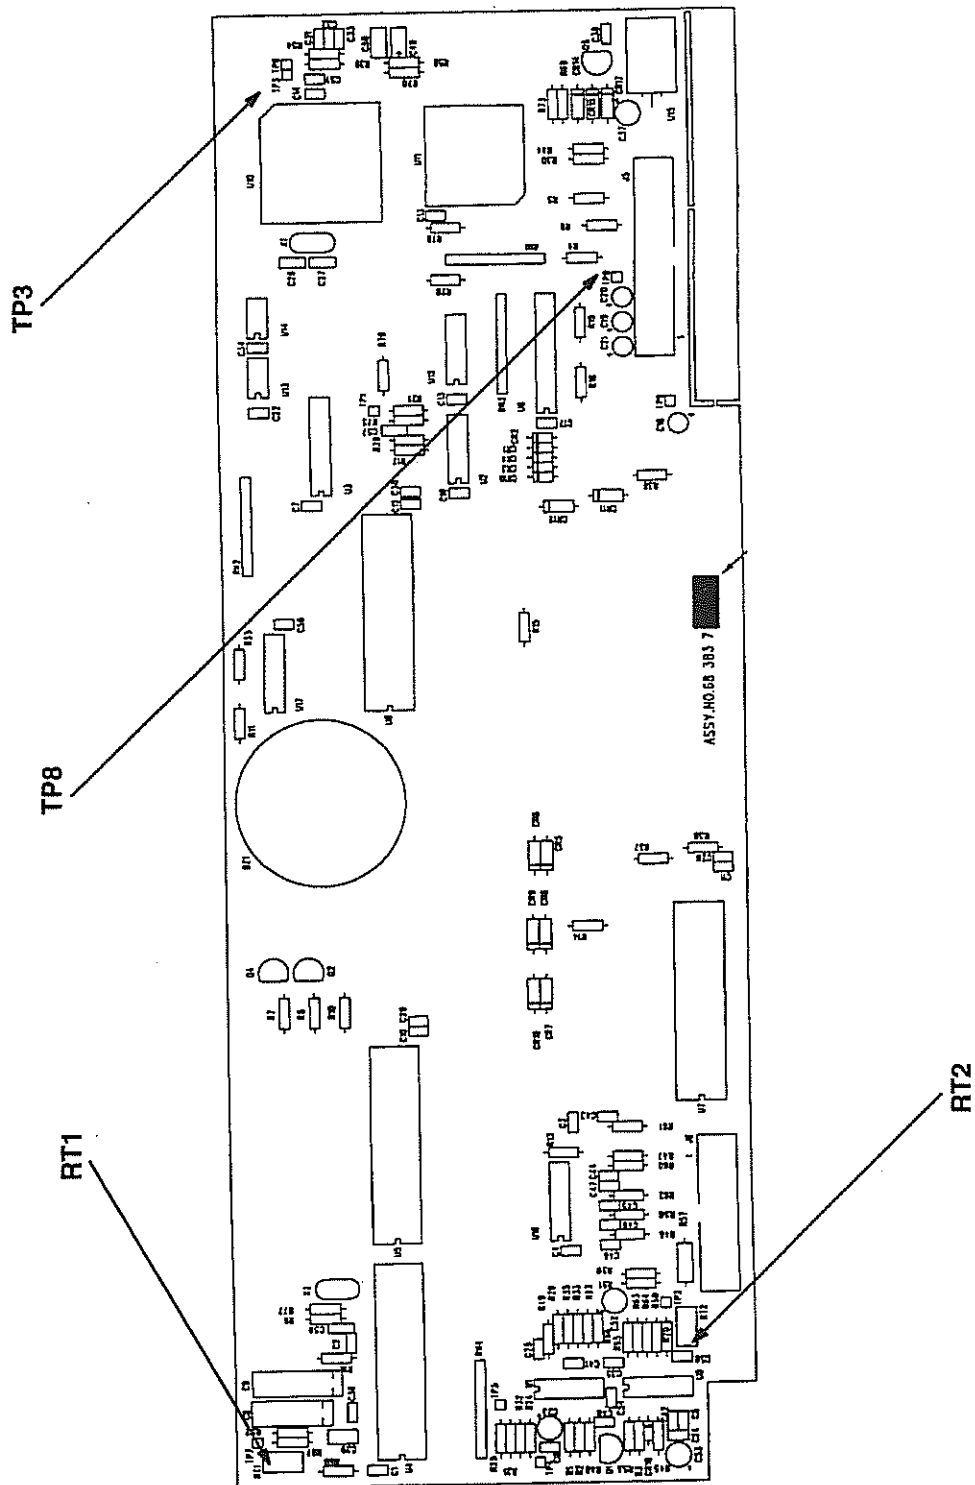

FIGURE 5.2 MAIN BOARD LOCATION OF TEST POINTS AND ADJUSTMENTS
5.3.3 MAIN BOARD (REFER TO FIGURE 5.2 FOR LOCATION OF TEST POINTS AND ADJUSTMENTS)